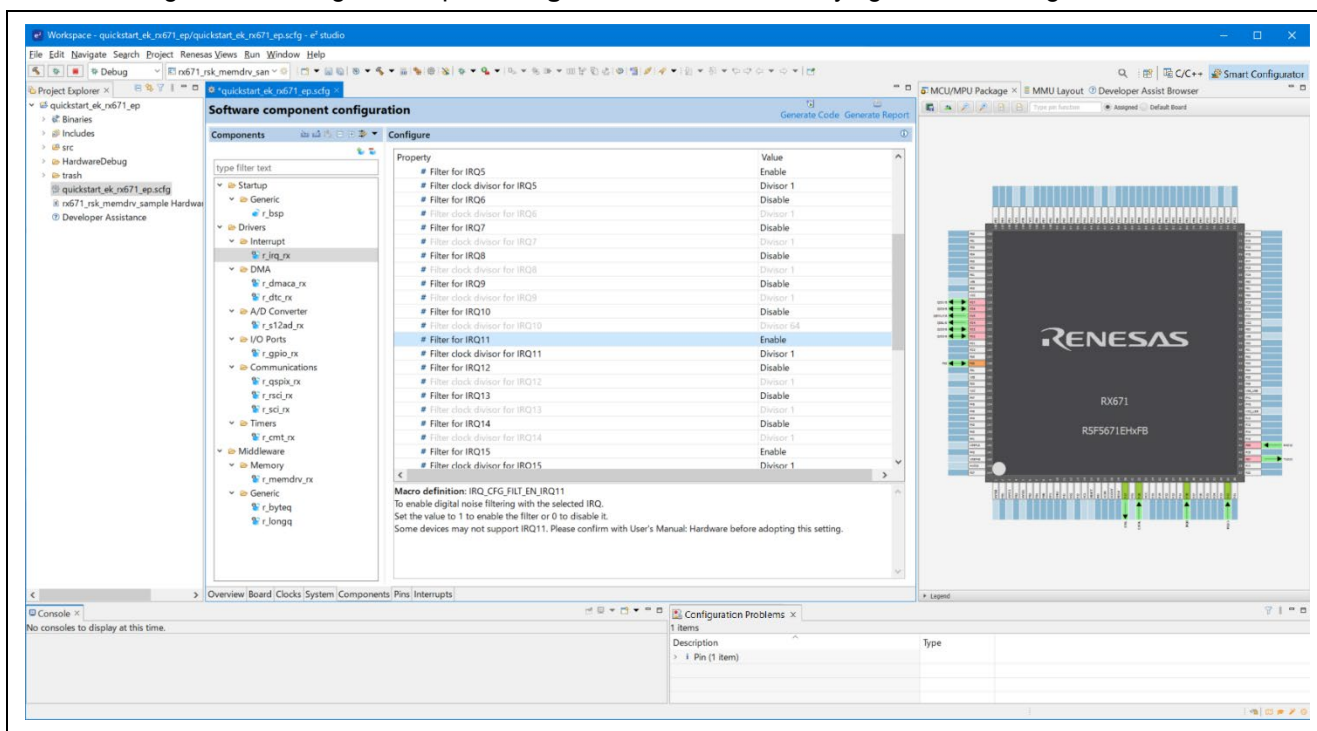

Figure 21. Modifying the Configuration Settings
2. For example, in the **Components** tab of the configurator, the user can click to select a module to modify its configuration settings, as required. **Figure 21** illustrates modifying the **IRQ** configuration.